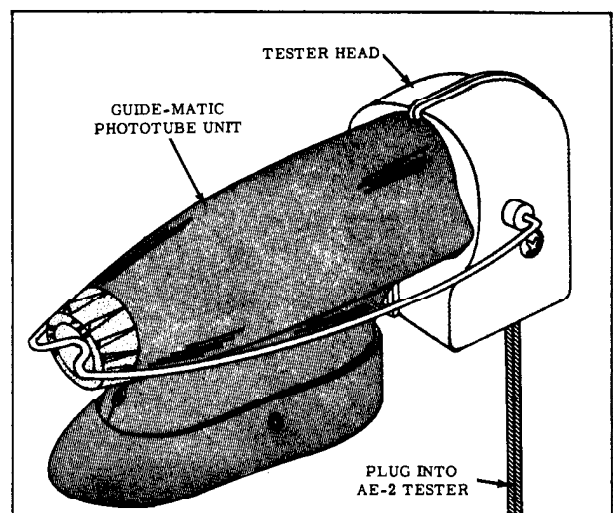

Fig. 13-99 Installing Tester Head
- Place tester head against front of phototube unit and position bail into place over sensitivity control knob. Plug tester head into modified AE-2 tester. (Fig. 13-99)